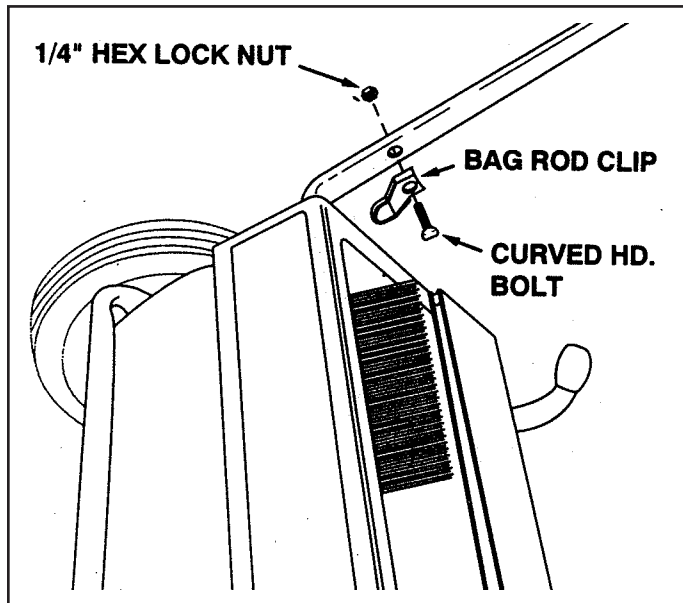

FIGURE 3
4. Assemble a bag rod clip to the inside of each lower handle tube using a curved head bolt secured down against the clip using a 1/4" lock nut. The open end of the clips should face towards the sweeper housing. See figure 3.